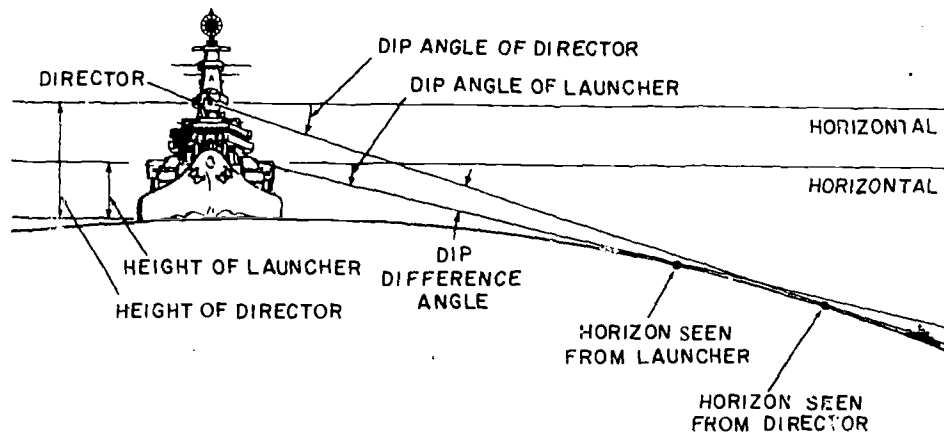

Figure 9-25.—Dip angle and dip difference.
Since the various elements of the missile battery are installed at different heights about the waterline, the dip angles of the elements will differ. The dip angle is the angle by which the line of sight of an element must be depressed before the horizontal to place the line of sight on the horizon. Figure 9-25 illustrates dip angles and dip differences. The dip angle is given in minutes and the height (H) is the height in feet of the element optics above the waterline at mean ship draft. The angle is computed by the formula: